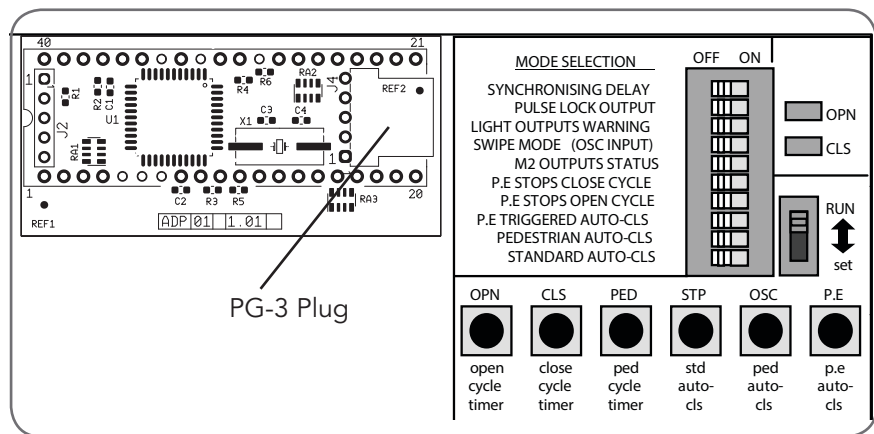

Fig 10.1
Once the ON / OFF switch positions for the Mode Selection Dip Switches (23) has been completed in Section 9, depending on the CB-6 version of the board there may be PG-3 Programmer compatibility. Check whether the Adaptor Board (20) on the CB-6 Board has a PG-3 Plug as shown in **Fig 10.1**. If no PG-3 Plug, proceed to Section 12.